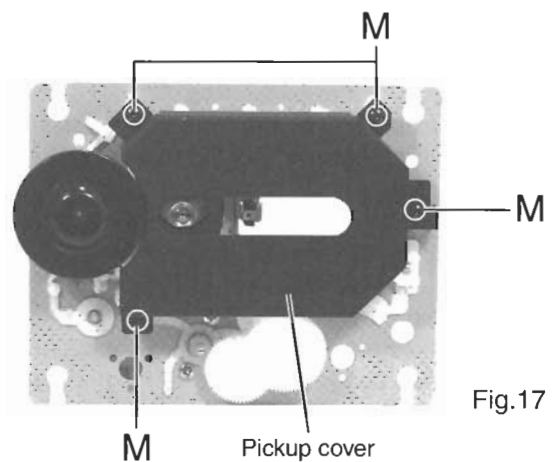

Fig.17
■ Removing the Pickup Assembly (See Fig.17 to 19)